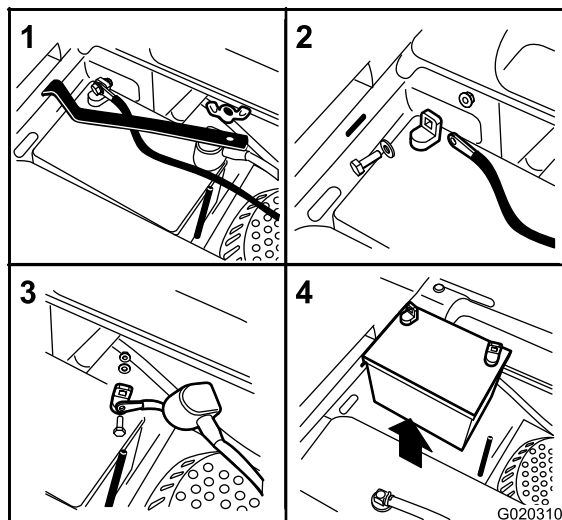

Figure 47
3. Remove the wing nut securing the battery clamp (Figure 47).
4. Remove the clamp (Figure 47).
5. First disconnect the negative battery cable (black) from the negative (-)(black) battery terminal (Figure 47).
6. Slide the red terminal boot off the positive (red) battery terminal and remove the positive (+)(red) battery cable (Figure 47).
1. Position the battery in the tray with the terminal posts opposite from the fuel tank (Figure 47).
4. Secure the cables with 2 bolts, 2 washers, and 2 locknuts (Figure 47).
6. Install the clamp and secure it with the wing nut (Figure 47).